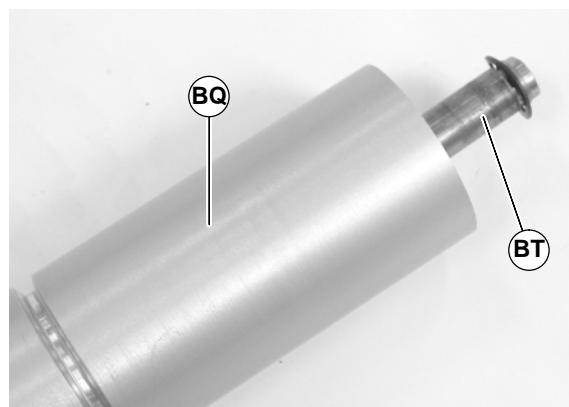

Figure 51
6. Slide the shaft assembly (BT of Figure 51) out of the pulley (BQ).